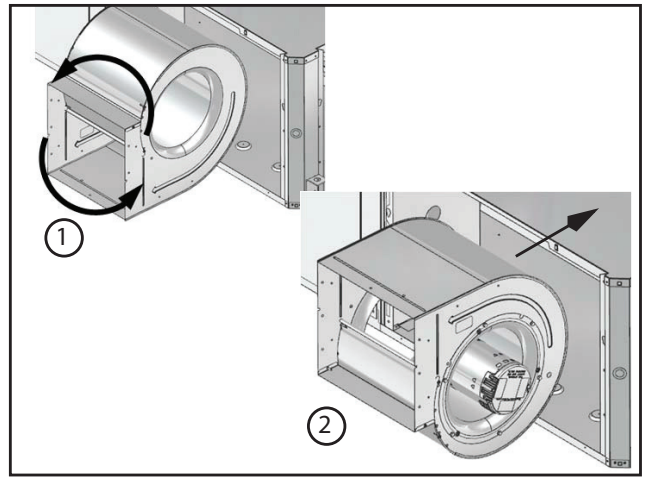

Fig. 36 - Reinsert Blower Assembly
10. Reorient the blower assembly 180 degrees with blower “belly” down and slide back into the cabinet. See Fig. 36.